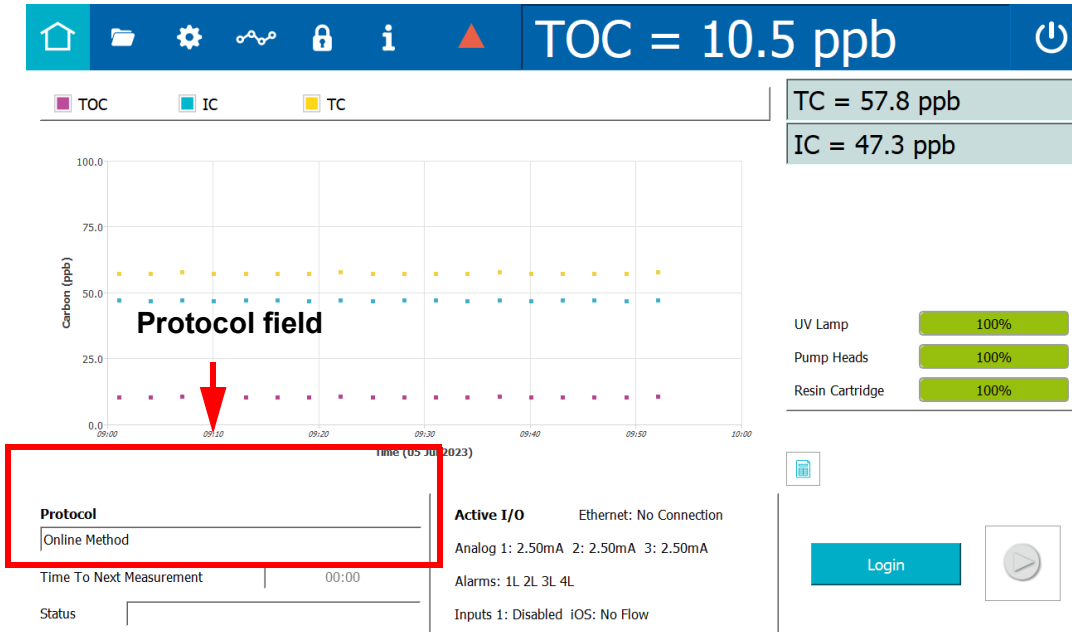

Figure 3-9: Measurement Mode shown in Protocol field
- Setting the measurement mode is complete and this measurement mode now appears in the *Protocols* field on the *Home*  screen (Figure 3-9). The Analyzer automatically uses this measurement mode for analysis.